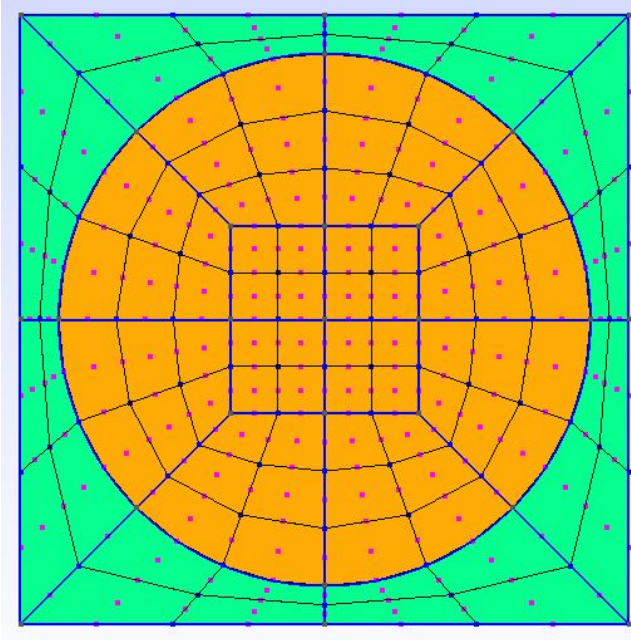

Fig. 6
* Click Mesh->Generate 2D mesh->Generate (Fig. 6.).